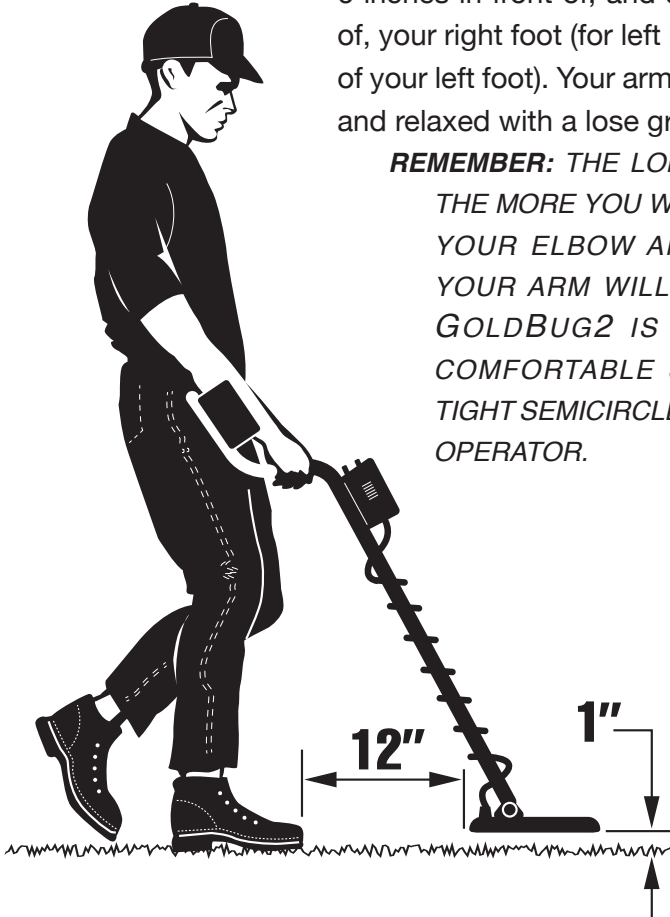

Figure 2.
3. Adjust the stem length and coil angle so that the searchcoil rests flat on the ground about 6 inches in front of, and slightly to the right of, your right foot (for left handers, to the left of your left foot). Your arm should be straight and relaxed with a loose grip. (see Figure 2).